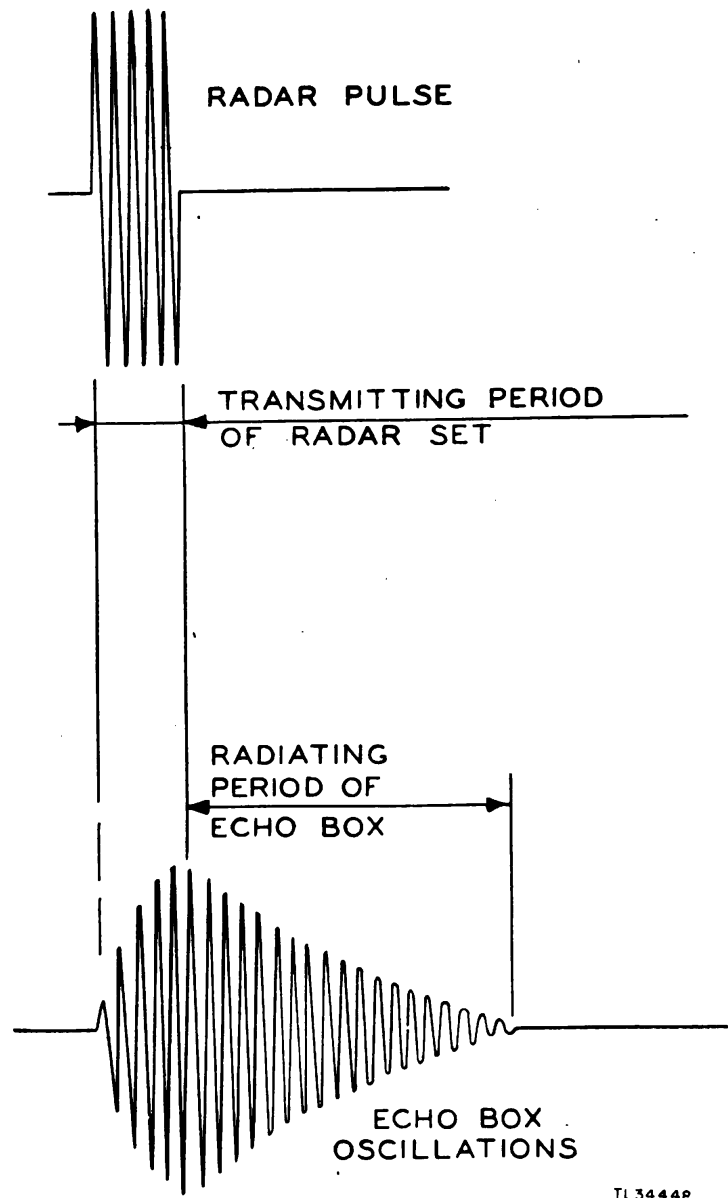

Figure 8. Echo box oscillations.
c. Echo Box as Small Transmitter. R-F energy in the radar transmission line is picked up by the pick-up probe and is fed into the echo box cavity through the r-f cable and a coupling loop. During the radar pulse, the resonant cavity of the echo box accepts r-f energy, and oscillations build up for the duration of the radar pulse (fig. 8).